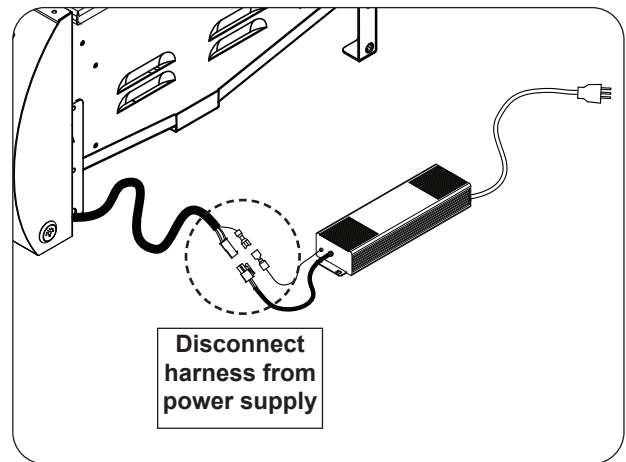

Fig. 28-2 Disconnect harness
1. Locate the harness coming from the grill and disconnect it from the power supply (see Fig. 28-2).